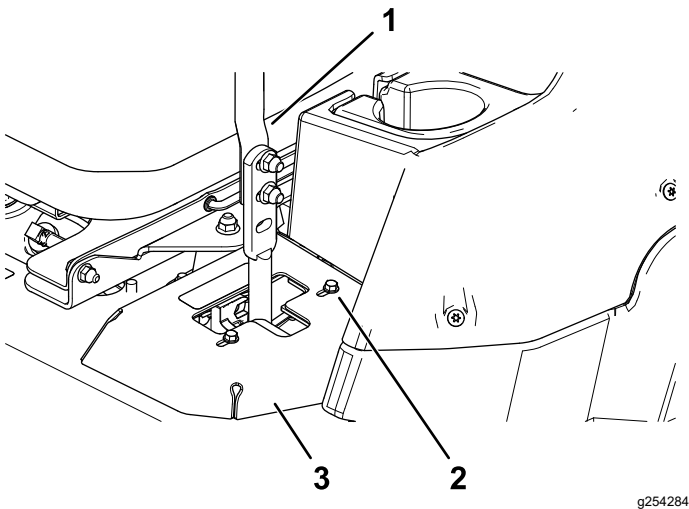

Figure 51
- If it tracks to the right, loosen the bolts and adjust the left stop plate rearward on the left T-slot until the machine tracks straight (Figure 51).
- If it tracks to the left, loosen the bolts and adjust the right stop plate rearward on the right T-slot until the machine tracks straight (Figure 51).
6. Tighten the stop plate (Figure 51).